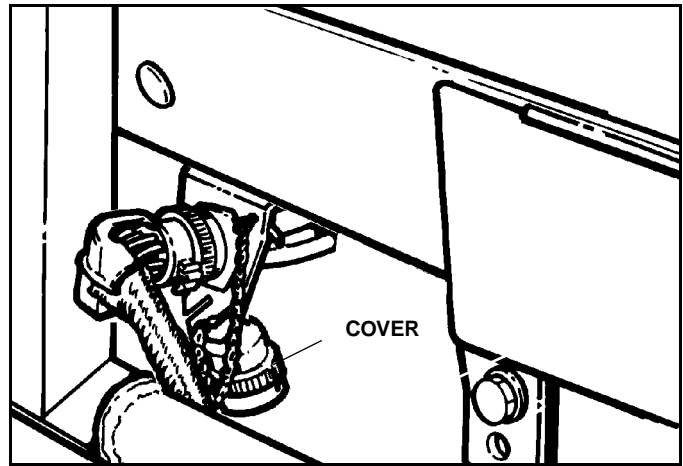

Figure 1-2
- Remove the protective cover from the vehicle end of the wiring harness by rotating it counterclockwise and store it as shown in Figure 1-2, if it is chained to the harness Plug Bracket. If Plug is not chained to the bracket store the cover in the vehicle for future use.